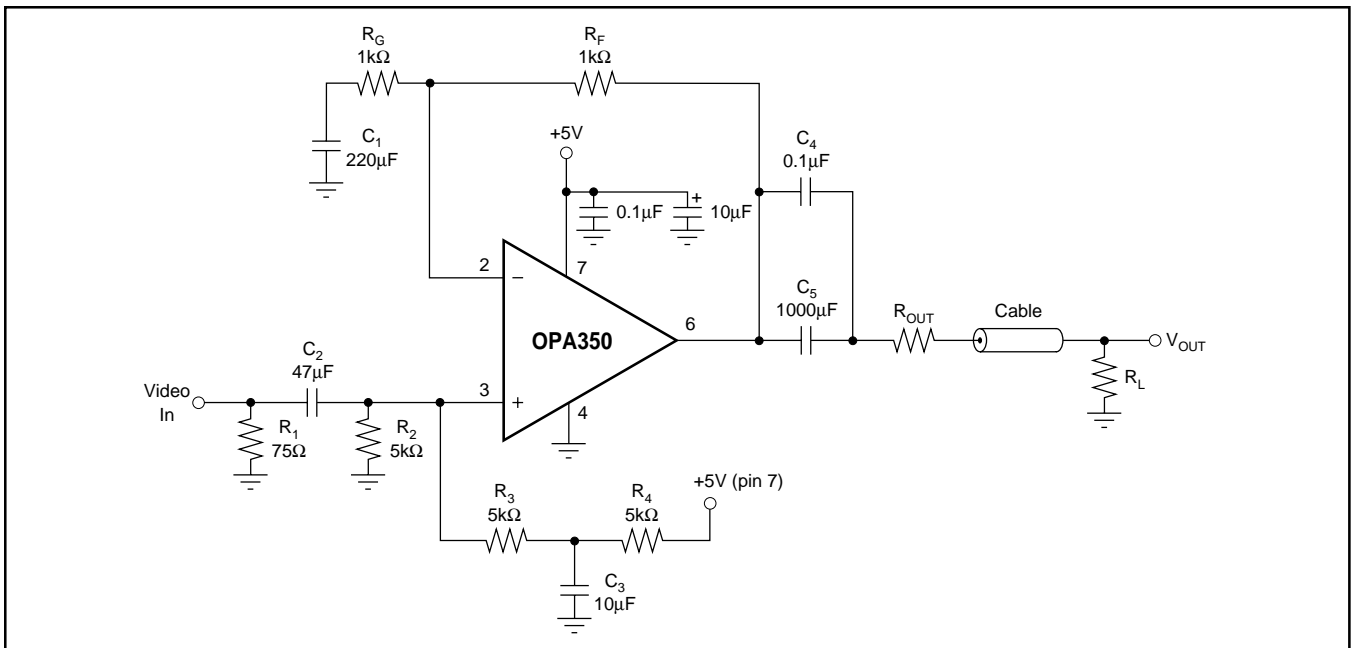

FIGURE 6. Single-Supply Video Line Driver.
NOTES: (1) $V_S = +5V$. (2) $V_{OUT} = 0.25V$ to $2.75V$. (3) NTSC signal generator used. See Figure 6 for test circuit. (4) Output voltage swings are measured between the output and power supply rails. (5) See typical characteristic, "Output Voltage Swing vs Output Current."
Figure 6 shows a circuit for a single supply, $G = 2$ composite video line driver. The synchronized outputs of a composite video line driver extend below ground. As shown, the input to the op amp should be ac-coupled and shifted positively to provide adequate signal swing to account for these negative signals in a single-supply configuration.
The input is terminated with a 75Ω resistor and ac-coupled with a $47\mu F$ capacitor to a voltage divider that provides the dc bias point to the input. In Figure 6, this point is approximately $(V^-) + 1.7V$. Setting the optimal bias point requires some understanding of the nature of composite video signals. For best performance, one should be careful to avoid the distortion caused by the transition region of the OPA350's complementary input stage. Refer to the discussion of rail-to-rail input.